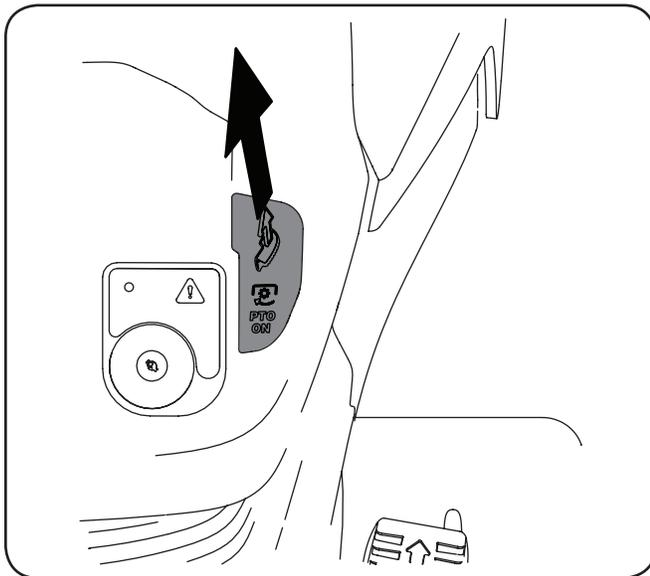

Figure 5-3
2. Pull the PTO/Blade Engage lever  upward into the ON position. See Figure 5-3.